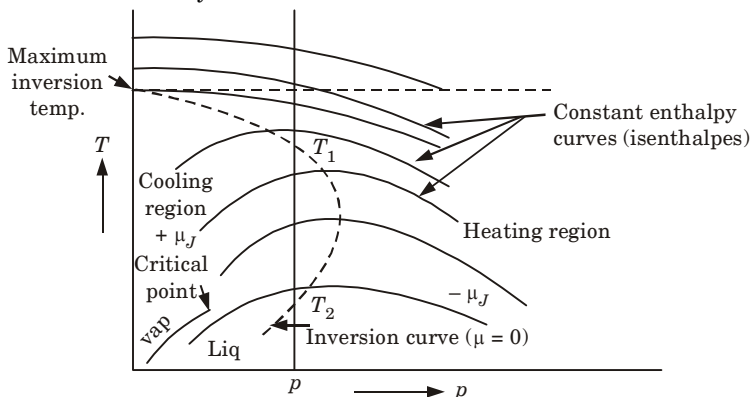

Fig. 10. Isenthalpic curves and the inversion curve.
7. The initial temperature and pressure of the gas (before throttling) are then set to new values, and by throttling to different states, a family of isenthalpes is obtained for the gas, as shown in Fig. 10.